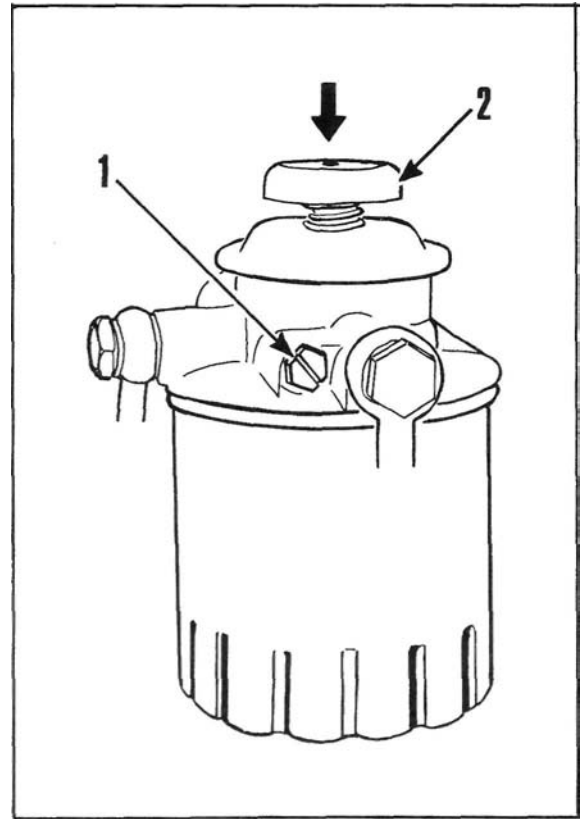

Fig. 10
5. Loosen the vent screw at the top of the filter (see Fig. 10). Operate the priming pump on the top of the filter until fuel, free from air, comes from the vent point. Tighten the vent screw.
1. Loosen the vent screw on the top of the fuel filter (see Fig. 10).